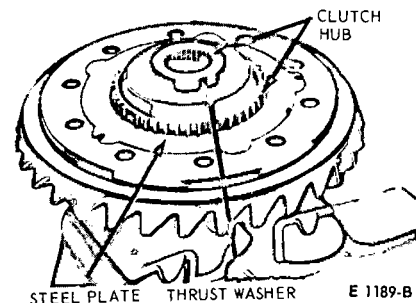

FIG. 25—Installing Steel Clutch Plates and Friction Plates
6. Clamp the differential case in a soft-jawed vise. Install the other differential side gear on the differential pinion gears. Place the clutch hub on the side gear. Place the thrust washer on the hub (Fig. 25).
2. First, install a steel clutch plate in the cavity of the right hand case and then a bonded friction plate (Fig. 25). **Make sure the bonded friction plate inner-spline teeth properly engage the hub spline.** Install the remaining plates: a steel plate, bonded friction plate, a steel plate, bonded friction plate and lastly a steel plate.